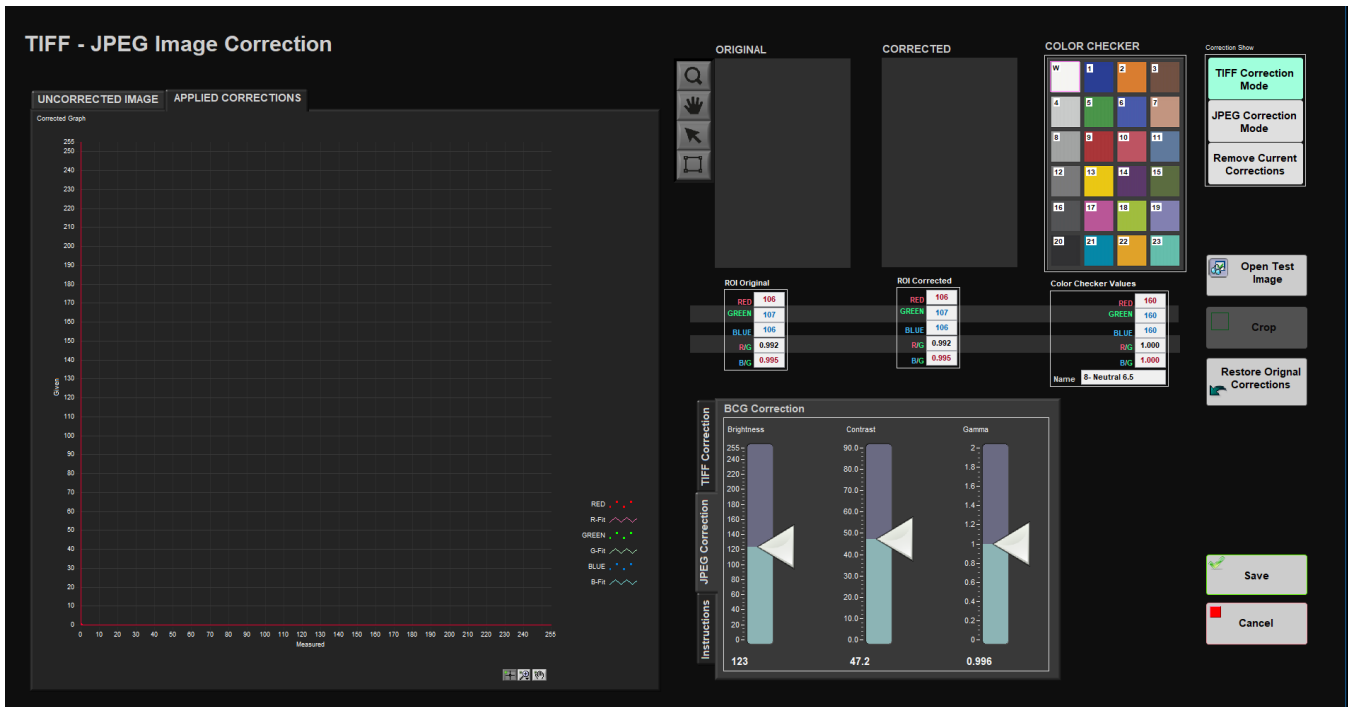

Figure 34. Main Image Correction Window
2. The main Image Correction Window opens (Figure 34). Make sure, TIFF correction is selected. Always select and process TIFF before JPEG.